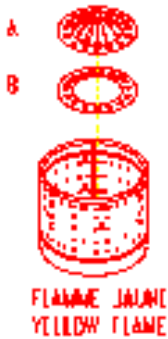

Figure 13: RINGS POSITION
- See that the (2) rings are in the right position. Each of them are stamped A and B (figure 13).